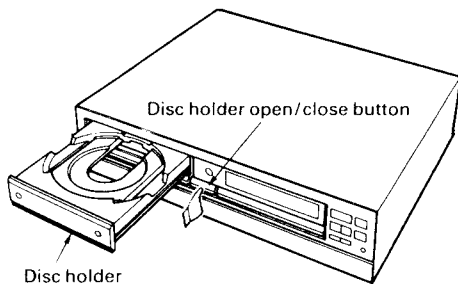

Fig. 1
- When using 12 cm. diameter discs, make sure the outer edge matches the tray guide circumference (Fig. 1), and when using CD singles (8 cm. diameter) match the outer edge with the inner tray guide circumference. (Fig. 2)